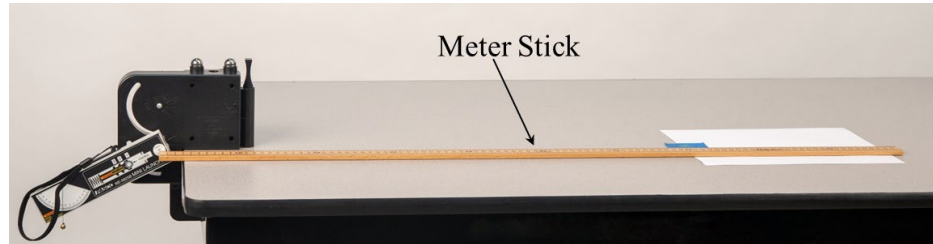

Figure 8: Measuring Range
9. Use a Meter Stick to measure the range to each landing point made for the 20° launch (see Figure 8).